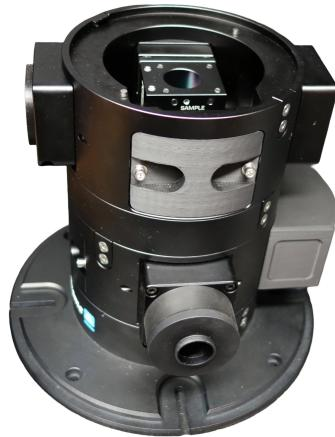

Figure 3: Foundational openFrame mechanical assembly (OF01).
1. Remove the foundational openFrame (part OF01, Figure 3) from the larger Pelican case (C1) and place it on a sturdy table. A work surface of 110cm × 80cm (or larger) is recommended. **The foundational openFrame is a heavy item and removing it from the Pelican case must be done with care to avoid injury or component damage.** Please seek the assistance of an additional person to remove the openFrame if necessary.